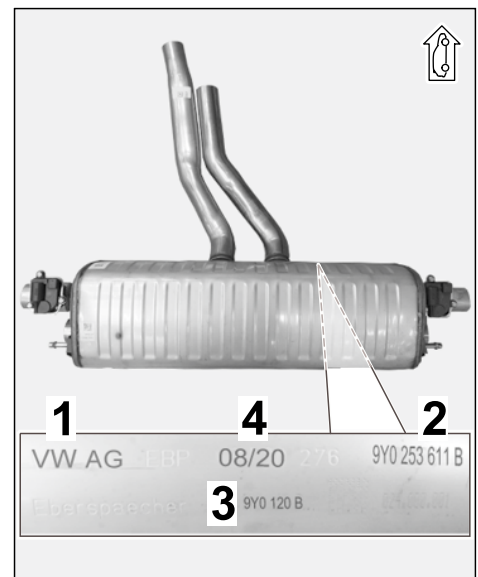

Figure 7
– Rear silencer (⇒ *Figure 7*):